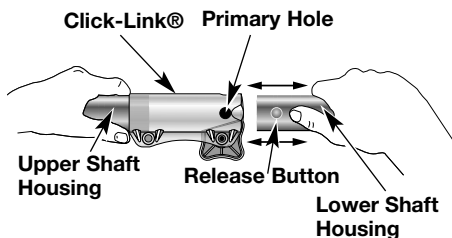

Fig. 13
2. While firmly holding the add-on, push straight into the Click-Link® shaft (Fig. 13).
3. While firmly holding the upper shaft housing, pull the add-on straight out of the Click-Link® (Fig. 13).
Lock the release button in the Primary Hole in the Click-Link® (Fig. 13).